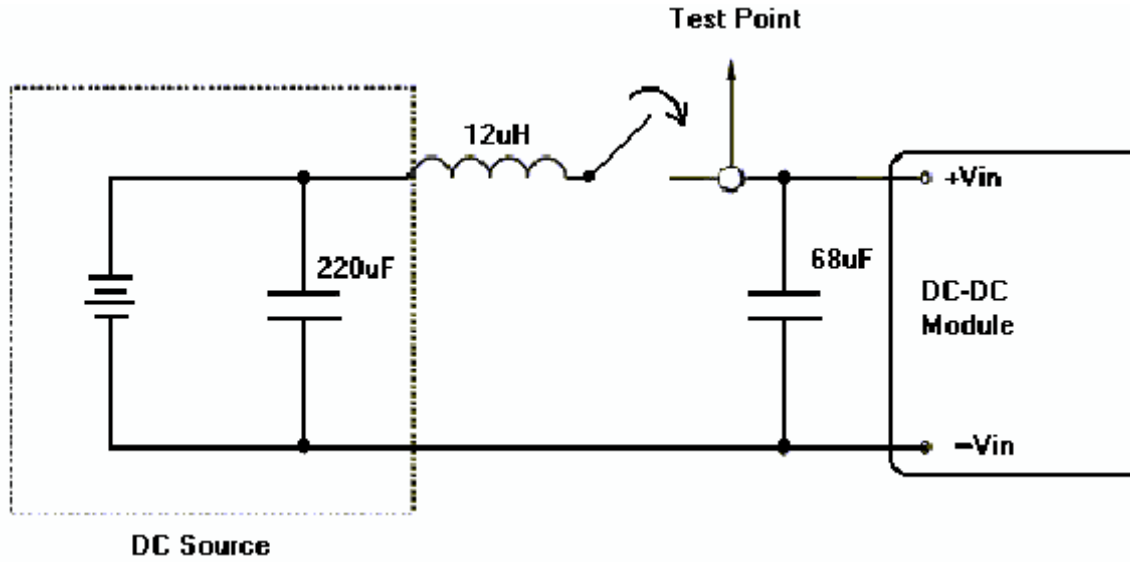

Figure 1. Input Reflected-Ripple Current Test Setup
2. External input capacitance required. See Figure 1 for the Input Reflected-Ripple Current Test Setup. Measure input reflected-ripple current with a simulated source inductance of 12μH.